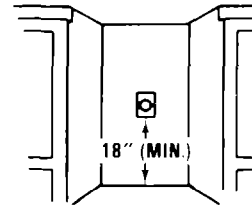

FIGURE 9
7. A grounded receptacle should be located 18" (min.) from the floor and in the center of the opening. See Figure 9.